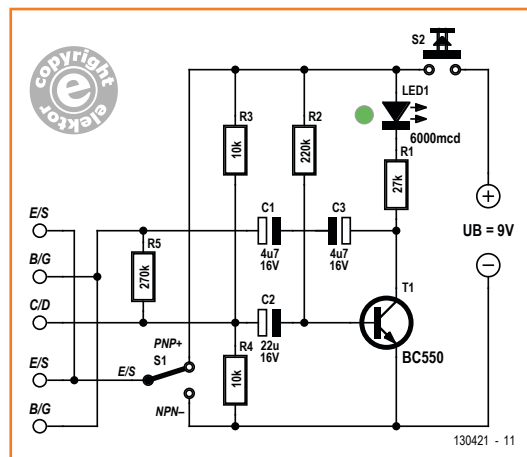

Figure 1.
The multivibrator oscillates and flashes the high-efficiency LED (**Figure 1**) when the test transistor is correctly connected. The LED may also flash when the E and C leads are switched, but the flash rate will be faster. This reflects the fact that some types of transistor will operate with their emitter and collector leads switched although their performance characteristics will not be the same as a correctly configured device. When testing Junction-FETs (JFETs) with symmetrical source and drain construction it is only possible to identify the gate lead with any degree of confidence, the source and drain leads are interchangeable. The load resistance of the transistor-under-test is configured as a voltage divider network at half the supply voltage via resistors R3/R4. This allows a simple switch (S1) to change from N(PN) to P(NP).
a piezo buzzer in place of the LED indicator. The value of the frequency determining capacitor has been reduced compared to its value in **Figure 1** so that the oscillation frequency is audible. A low buzz indicates that the transistor is correctly configured and working, no sound indicates the test transistor is either wrongly configured or dead. The push button makes it easy to switch the unit on and test the transistor at the same time once it has been connected. The complete circuit will easily fit on a small piece of prototyping perfboard, power is supplied by a 9 V PP3 battery.